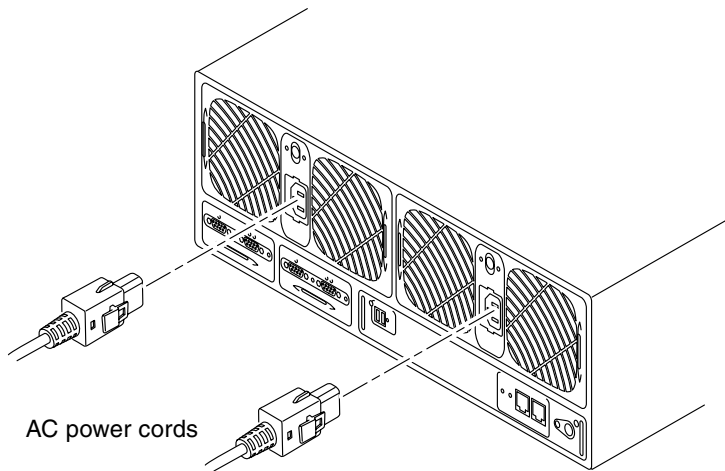

FIGURE 2-8 Connecting the Power Cords
7. Attach the two power cords to the two power and cooling units on the back of the master unit (FIGURE 2-8).